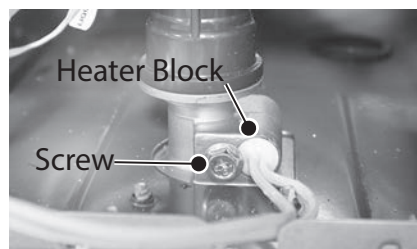

Figure 26 - Heater block location
- 18** Remove heater block B1 from the inlet water connection and set aside for reinstallation. See Figure 26.